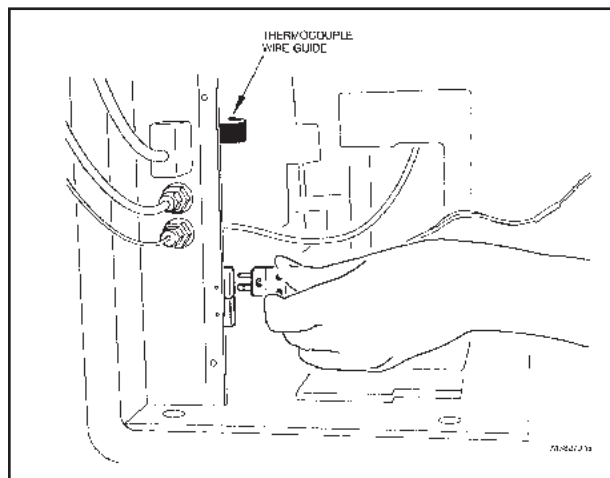

Figure 2.5
1. Insert the two-pin, color-coded thermocouple connector into the fitting as shown in Figure 2.5.